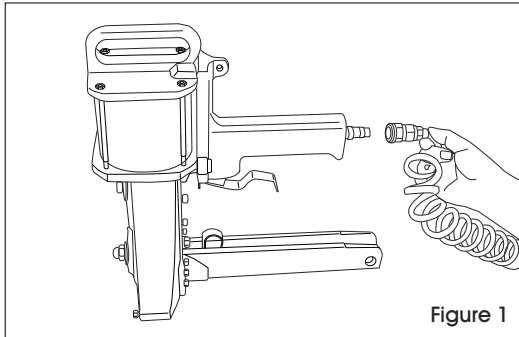

Figure 1
1. Disconnect the air supply. (See Figure 1)